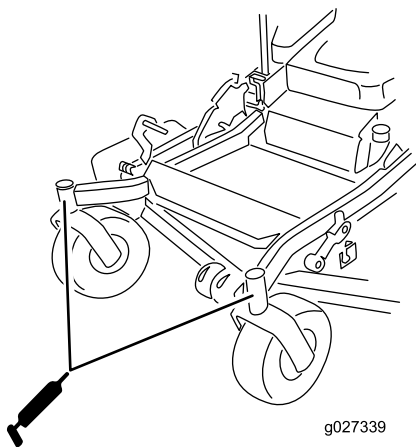

Figure 43
13. Install the hex plug and dust cap (Figure 43).
14. Grease the caster-wheel bearings (Figure 43).